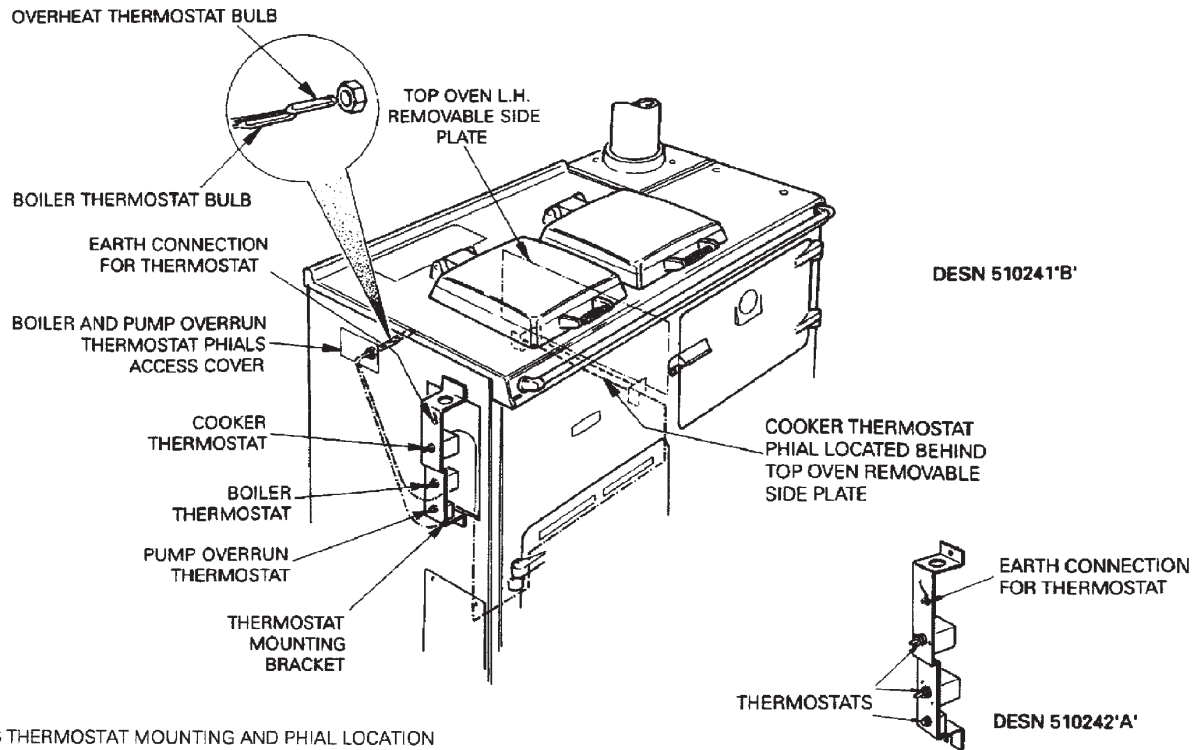

Fig. 16 THERMOSTAT MOUNTING AND PHIAL LOCATION
4.2 THERMOSTAT REPLACEMENT (SEE FIG 16).